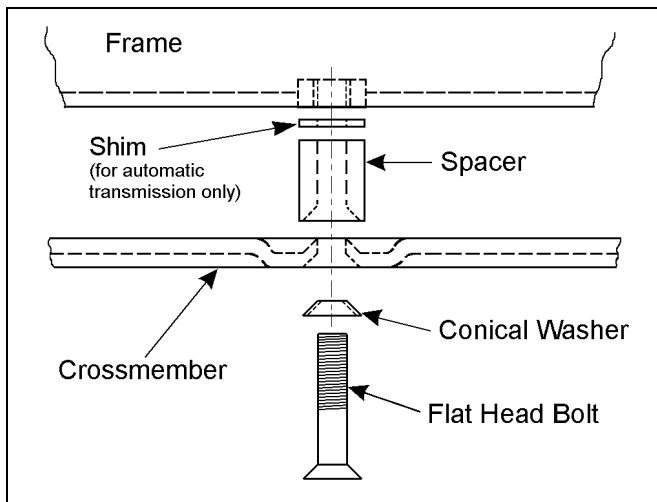

Figure 18
- 2) ☑ Remove the 3 bolts on one side and carefully lower the crossmember. Place 3 spacers from kit 860161 between the crossmember and the frame. The conical end of the spacer must fit over the mounting hole in the crossmember. For vehicles with an automatic transmission, add 3 shims. See figure 18.
crossmember, each spacer, and into the frame. See figure 18.